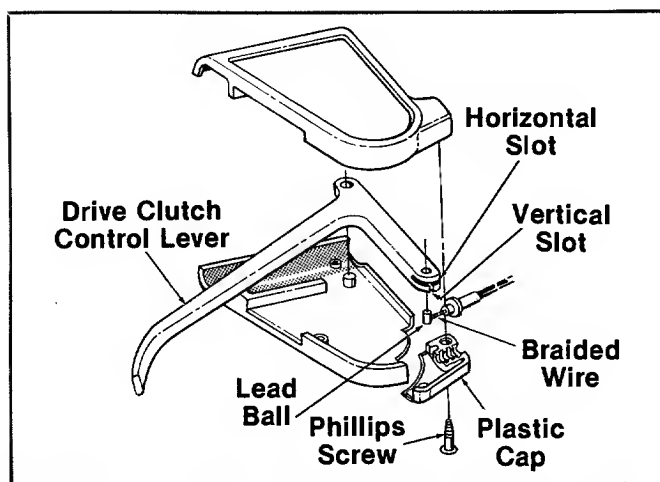

FIGURE 10.
14. Slide the braided wire around in the horizontal slot. See figure 10.